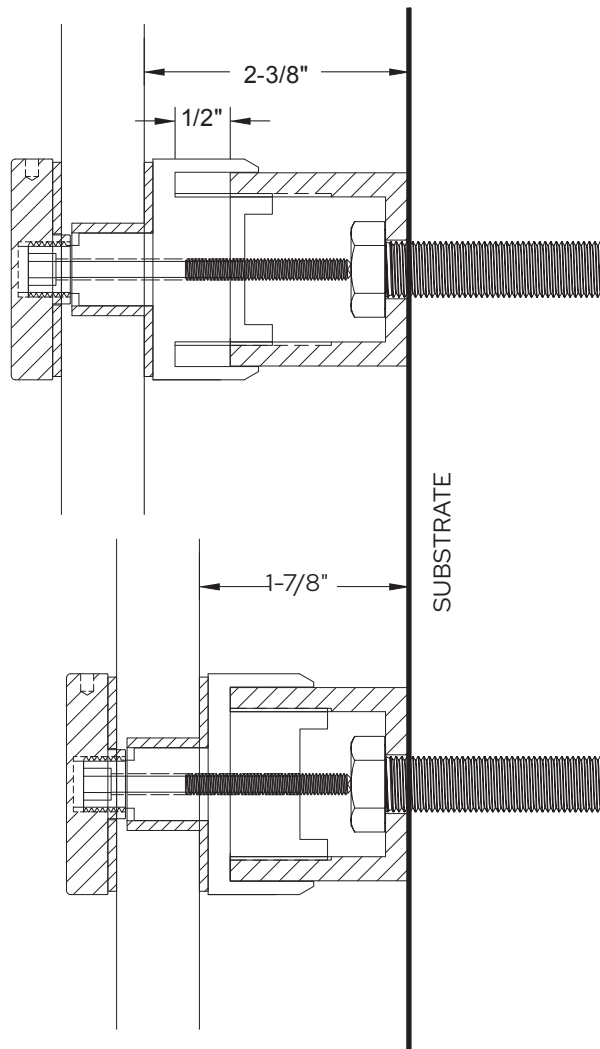

Figure 1b
2. Secure standoff base (6) to substrate using recommended fastener and torque value supplied in CRL's SRS Adjustable Standoff engineering report.
3. Using 1/4" Allen wrench to fasten mid-body assembly (4) onto standoff base and fasten to the desired projection from substrate to glass surface. Add inside body gasket (3) on top of mid-body assembly.
- a. Standoff bases have a 1/2" glass projection adjustment as shown in Figure 1b below; substrate to glass surface from 1-7/8" to 2-3/8".